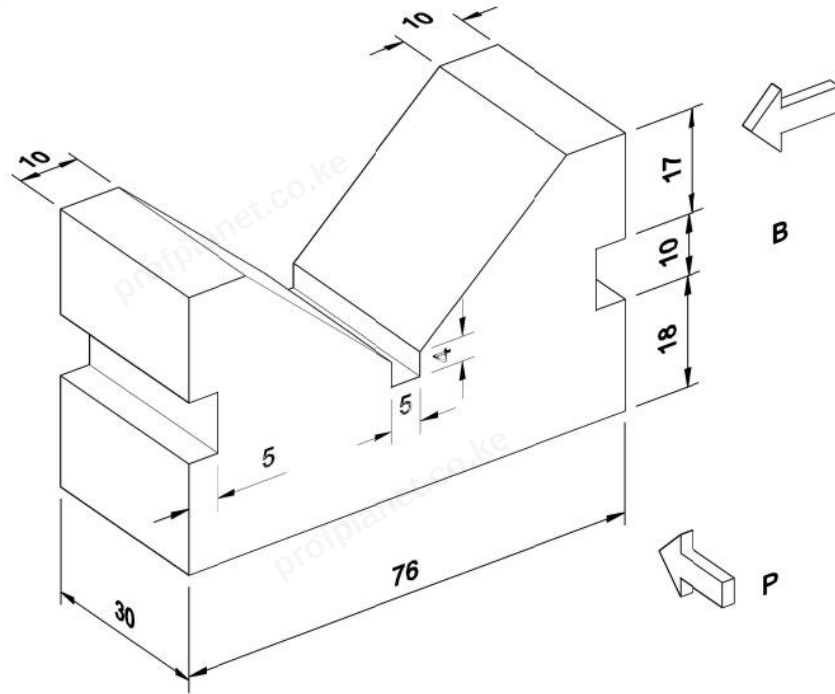

Figure 3
13. Figure 3 below shows a machine block. Draw the following views in first angle projection in the drawing paper provided. Include at least 4 major dimensions